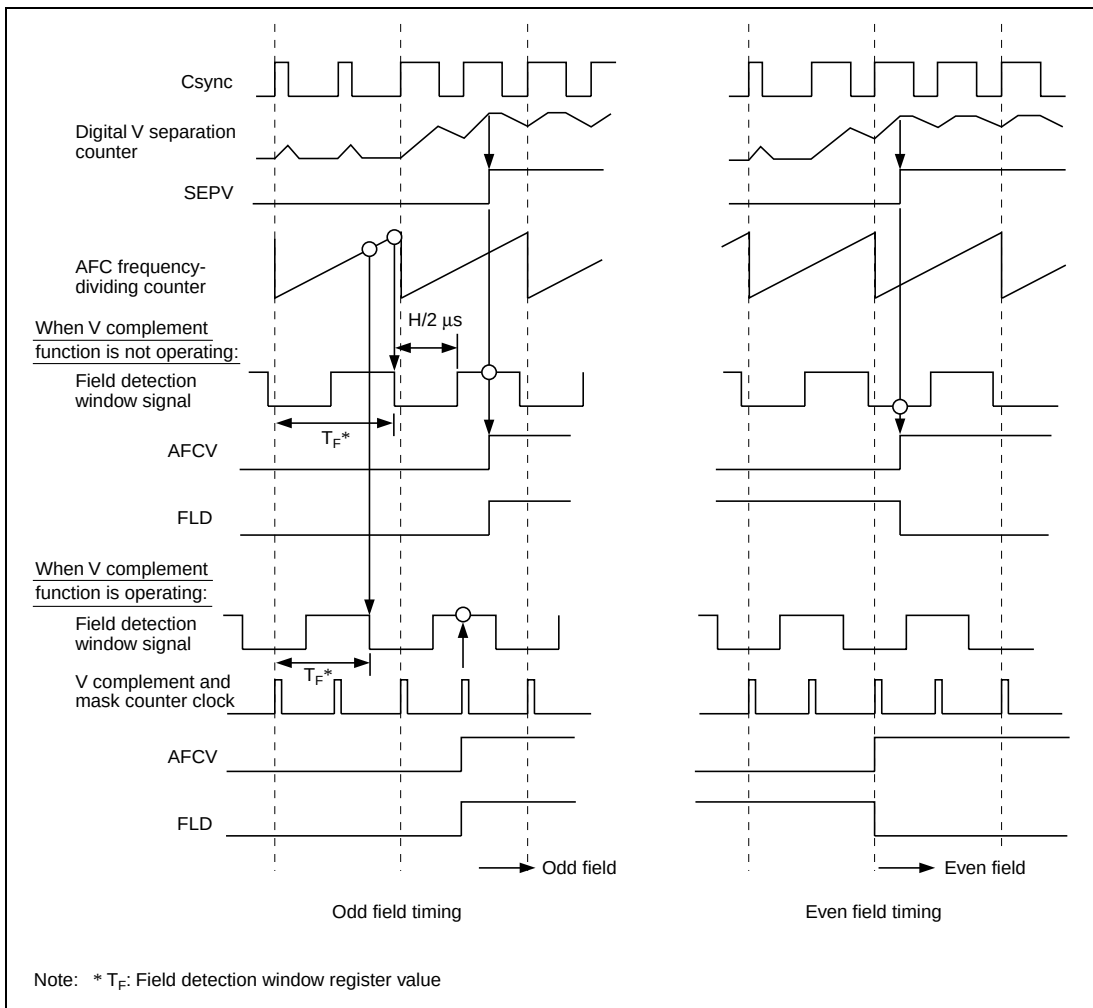

**Figure 27.13 Field Detection Timing**
(1) Bit 0 of SEPCR Register
**Bit 0—Field Detection Flag (FLD):** Indicates the field determined by the status of the field detection window signal generated by the AFC when the external Vsync signal (AFCV signal) rises. This flag is invalid when the internally generated Hsync signal is selected as the AFC reference Hsync signal. For the timing, refer to figure 27.13 Field Detection Timing.